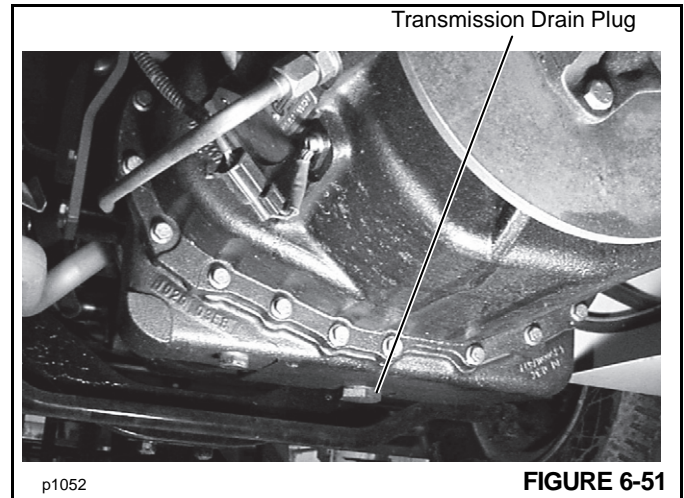

FIGURE 6-51
3. Place the container under the drain plug and remove the drain plug (Figure 6-51). Drain any oil left in the transmission into the container. Install the drain plug.